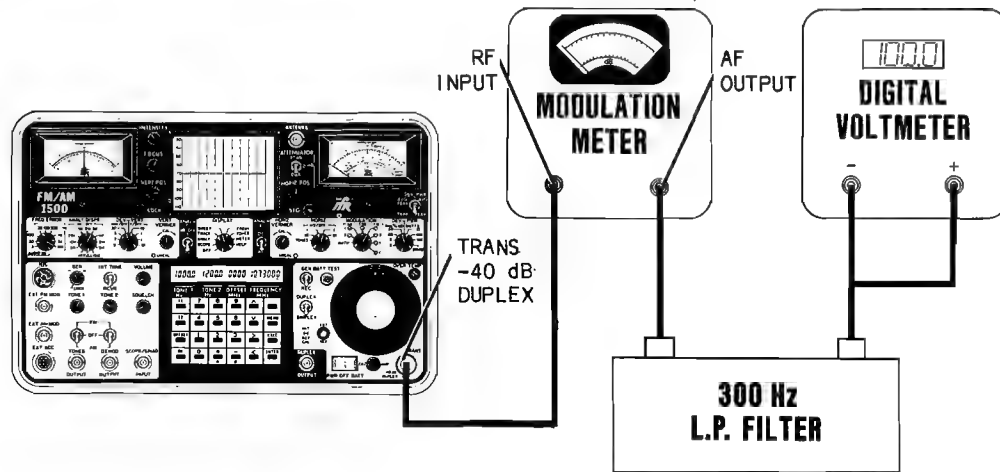

Figure 4-3 Residual FM Test Hookup
13. Connect a 50 $\Omega$  Termination to DUPLEX OUTPUT Connector (16). Using external Spectrum Analyzer, measure RF output level at TRANS/-40 dB DUPLEX Connector (11). Verify output level is -50 dBm (3 dB).
14. Repeat Steps 12 and 13 for a 120.2000 MHz setting on LCD (21).
15. Connect Modulation Meter, 300 Hz Low-pass Filter and Digital Voltmeter to FM/AM-1500 as shown in Figure 4-3. Set Modulation Meter filters to 30 Hz high-pass and 3 KHz low-pass.